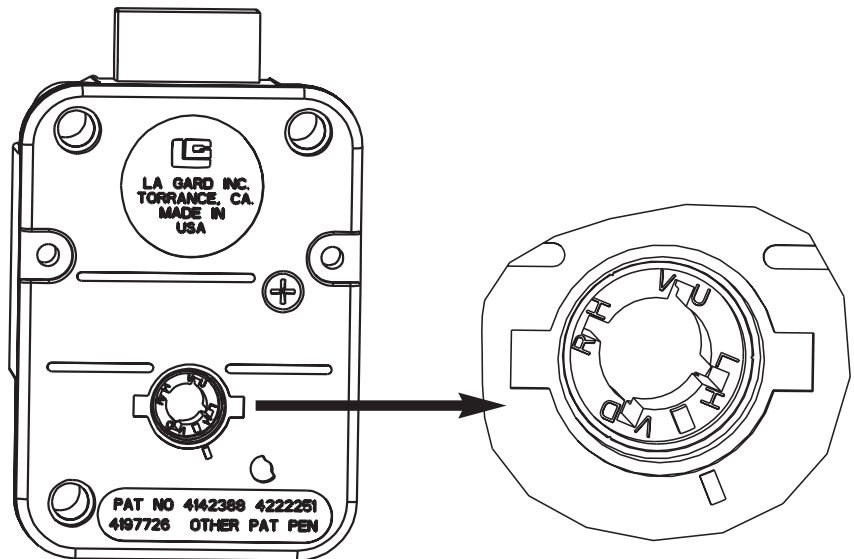

Figure 3
- ⑤ Insert the spindle through the spindle hole of the door. Gently thread (clockwise) the spindle through the drive cam until tight. Rotate (counterclockwise) at least 1/2 turn until you come to the correct spline position. Please refer to the Spline Key Position Chart below, see Figure 3.
- ⑥ Insert the spline key fully into the spline key slot.
- ⑦ Insert the black cover insert. This cover insert is not intended to keep the spline key in place, but rather to keep dust, etc. out.
- ⑧ ALL LA GARD locks are set to open with a default combination set to 50. (This may vary slightly by one or two numbers either up or down due to variations in alignment of dial ring during installation.) To test your lock follow the opening instructions using the default combination.